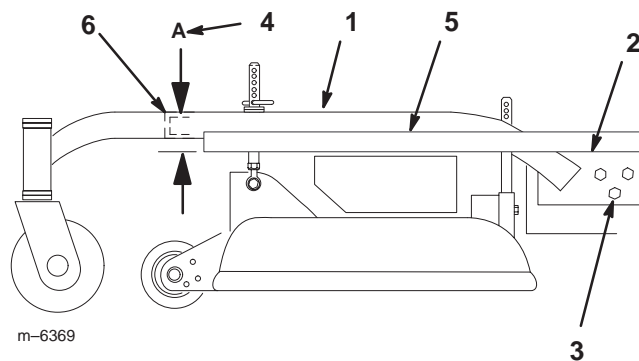

Figure 66
- Place a long straight edge on top of the engine deck as shown in figure 66.
- At the carrier frame cross tube, measure location **A** height (Fig. 66). This measurement must be 1–5/16 inch (33 mm), plus or minus a 1/4 inch (6 mm).
- Loosen the carrier frame mounting bolts on both sides of the machine (Fig. 66).
- Align the carrier frame and engine deck to match 1–5/16 inch (33 mm), plus or minus a 1/4 inch (6 mm) at location **A** (Fig. 66).